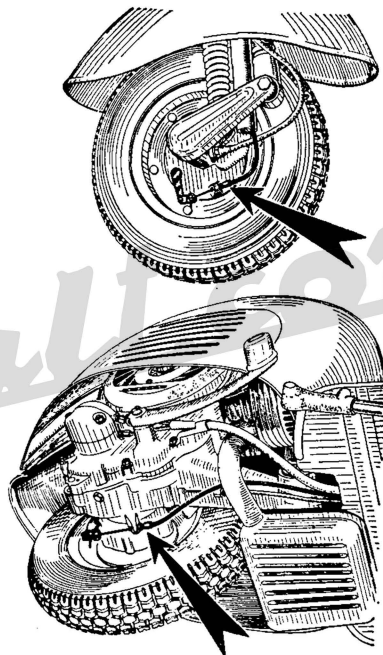

Fig. 18 - Brake adjustment
- the braking action starts as soon as respective controls are operated. These conditions are obtained adjusting the cables by means of screws indicated with an arrow in Fig. 18.
<p>INCORRECT RUNNING</p> <p>1. - Lack of power Silencer outlet pipe carbonised Sparkplug not well screwed into cylinder head Cylinder head not fitting properly into the spigot on top of cylinder</p> <p>2. - Back-firing at Silencer and carburettor</p> <p>3. - High fuel consumption (a) Air cleaner choked or dirty; flap of choke valve sticking in closed or partially closed position. (b) Other troubles (faulty carburettor, poor compression, etc.)</p> <p>4. - Engine noisy - Clutch troubles - Gear pinions disengage of own accord - Starter assembly not engaging - Controls not operating properly - Steering column becomes stiff - Inefficiency of suspensions</p> <p>5. - Poor braking Stroke of pedal or lever too long Brake linings oily or worn down Brake drums and linings scratched</p> <p>6. - Faulty electric wiring Lead terminals loose or wrongly connected Incorrect adjustment of the head lamp</p>	<p>Clean (see page 31). Tighten with 21 mm box wrench. Set the head properly and tighten the nuts uniformly.</p> <p>Replace or clean the plug and correct the gap (see page 30, No. 6).</p> <p>Clean with pure petrol and blow dry. Dip the filter into a 30% Petrol-oil bath. Release and lubricate the choke control lever. See your Retailer.</p> <p>See your Retailer.</p> <p>Adjust (see Fig. 18, page 27). Wash with petrol and dry in air, or replace. See your Retailer about oil leakage. Replace.</p> <p>Re-connect properly (see Figs. 11-12) or replace and tighten the screws. Re-set properly (see page 28).</p>